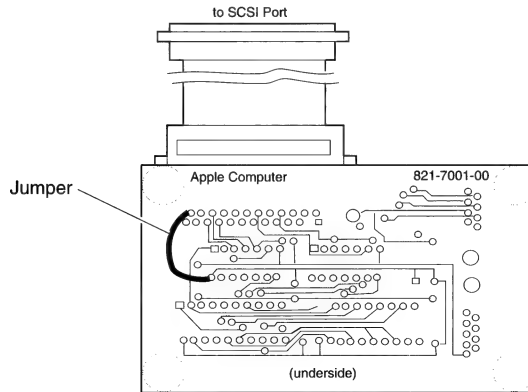

Figure 1 Older SCSI Loopback Card with Jumper
1. Locate J1 pin 25 and RP1 pin 14 on the SCSI loopback card (see Figure 1). J1 pin 25 is the pin closest to the upper-left corner of the card; RP1 pin 14 is in the middle line of pins and closest to the left edge of the card.